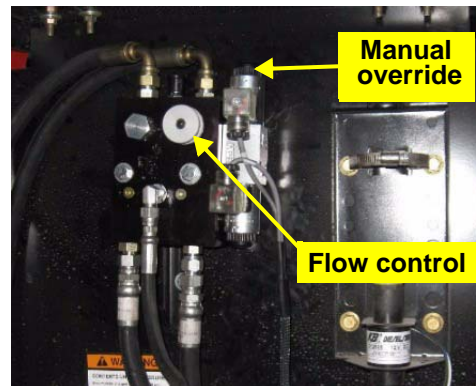

Figure 9: Steering block manual override and flow control button
- d. Adjust the automated steering oil flow control knob to a starting position of $1\frac{3}{4}$ turns from completely closed. To adjust the knob (Figure 9):
- e. The coils on the hydraulic steering block have manual push button overrides. Push either manual override to move the steering wheels all the way to one extreme (Figure 9).
- f. While pressing the override button of the other coil, count the number of seconds for the steering wheels to move all the way in the opposite direction (Figure 9).